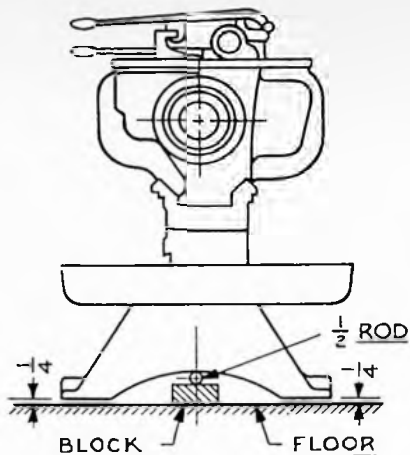

Fig. 7—Drawing Illustrating Manner of Supporting End of Bed to Eliminate Twist while Rescraping Bed Bearings
- end of bed as shown in Figure 7.